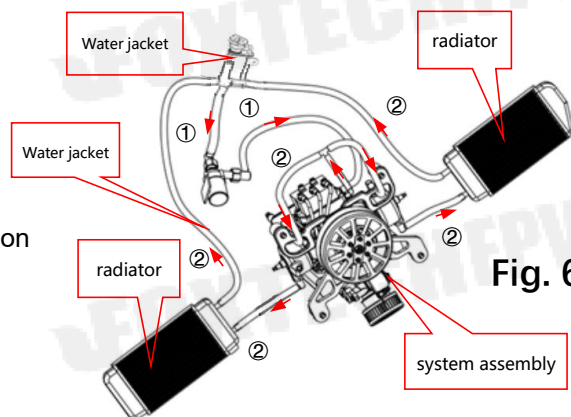

Fig. 6
3.2 Cooling system installation and water pipe connection is shown in Figure 6 below: